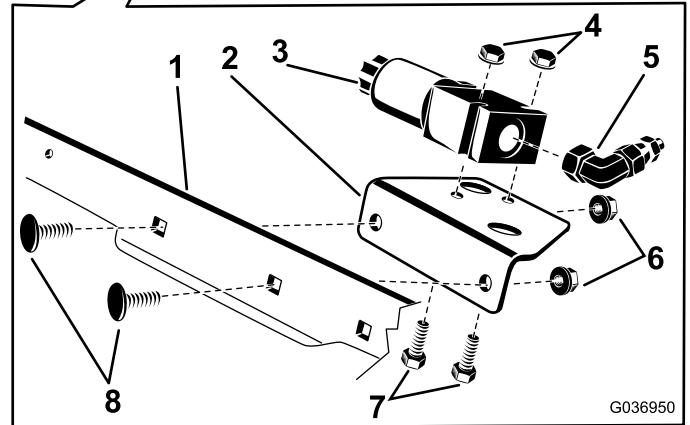

Figure 1
2. Install the mount plate to the frame cross member with 2 screws (3/8 x 1 inch) and 2 nuts (3/8 inch). Position the plate as shown in Figure 1.
3. Install the 90° adapter fitting into the end of the differential lock valve, positioning as shown in Figure 1.
4. Install the differential-lock valve to the mount plate with 2 screws (1/4 x 2 inch) and 2 nuts (1/4 inch). Position the differential-lock valve on the mount plate as shown in Figure 1.